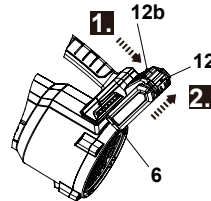

Fig. 3
2. Press the release button (12b) and remove the battery pack (12) from the battery docking port (6) (Fig. 3).